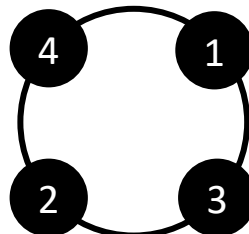

Figure 1: flange bolt tightening sequence.
6. Lightly tighten the four location bolts in the order as shown in Figure 1 to secure the adjoining flange.
7. Using a torque wrench, tighten in the correct sequence as shown as shown in Figure 1.